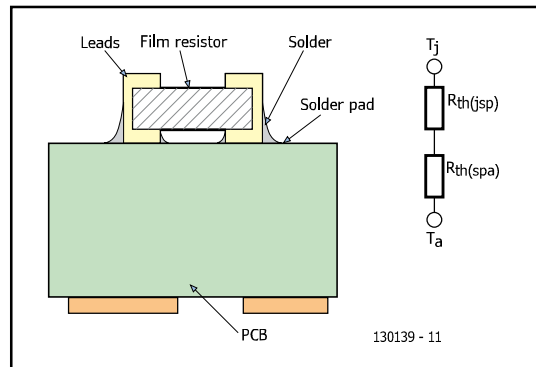

Figure 1. Thermal parameters for a wraparound chip resistor.
Referring to **Figure 1**, resistor manufacturers need only take care of $R_{th(jsp)}$, but must carefully consider their choice of material, the resistor pattern, terminations, etc. Manufacturers who also improve thermal stability can offer resistors that can withstand higher and higher temperatures without undergoing significant drifts. This removes limitations on T_j .
- Temperature versus drift was plotted against time and appears in **Figure 1**.